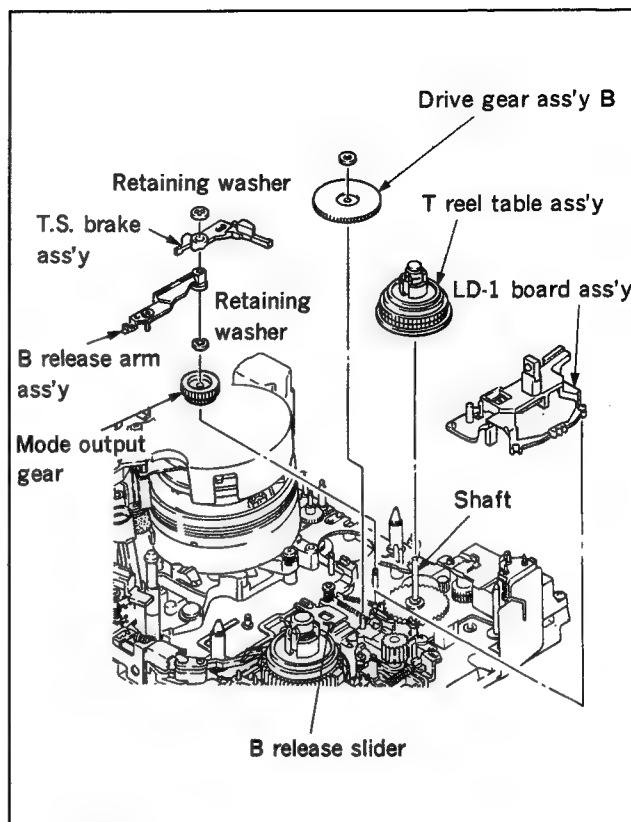

Fig. 4-23-2 Drive gear B ass'y removal
1. Drive gear B ass'y removal (Fig. 4-23-2)
7. Mode output gear removal (Fig. 4-23-2)